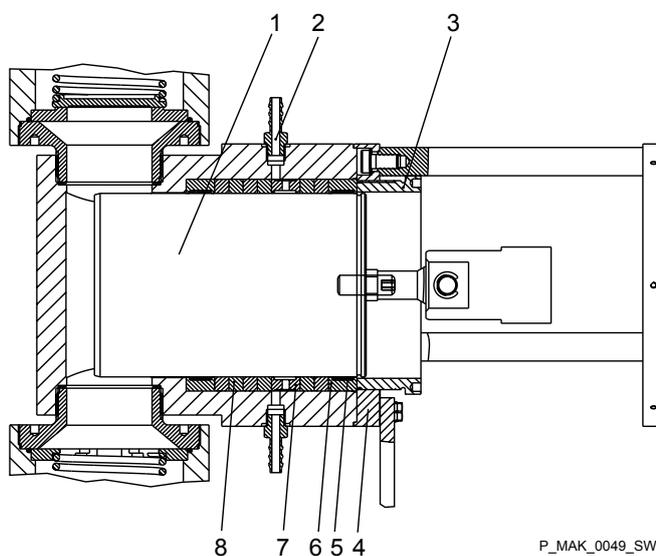

Fig. 19: Cross-section through the liquid end
1. ➤ Loosen the tensioning screw (3) using the face spanner and remove - see Fig. 19.
2. ➤ Loosen the dosing head flange (4) screws and remove the dosing head flange.
3. ➤ Remove the plunger (1)
5. ➤ Remove the guide sleeves (6) and guide bands (5), the packing collars (8) and flushing collar (7).
7. ➤ Clean the plunger (1), the guide sleeves (6) and the flushing collar (7)
9. ➤ Insert the plunger (1).
1. ➤ Align the holes of the swivel head and fork head - see Fig. 19.